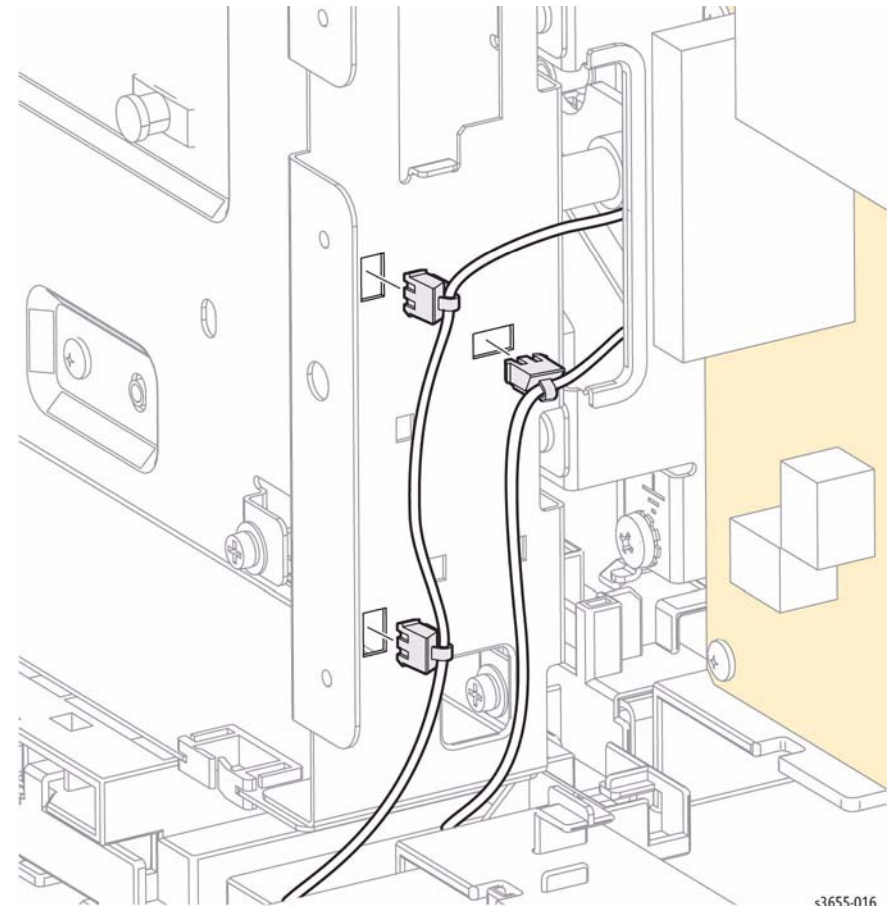

Figure 1 Release the harnesses from the ESS Housing
10. Refer to Figure 1 to locate and release the harness clamps from harnesses routed through the ESS housing.